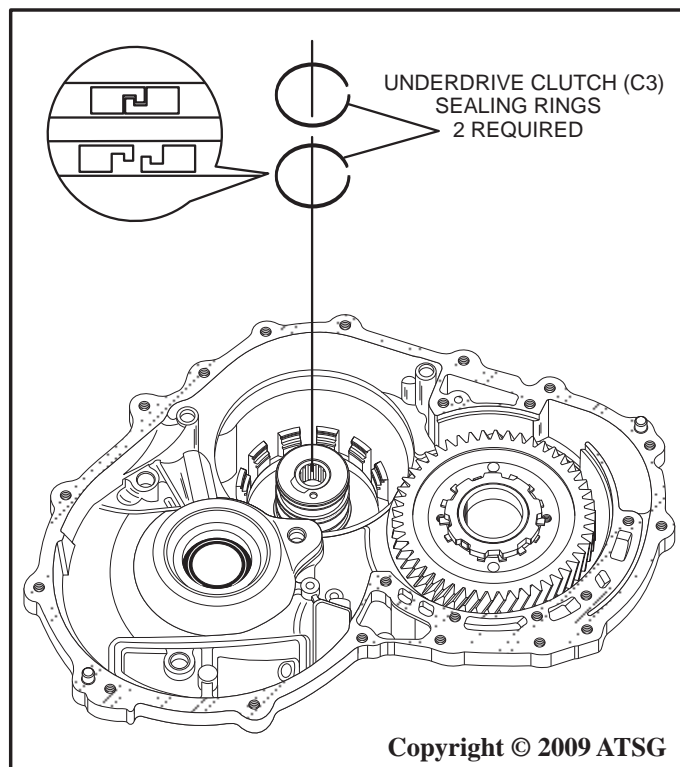

Figure 42
63. Remove and discard the underdrive clutch (C3) sealing rings as shown in Figure 42.